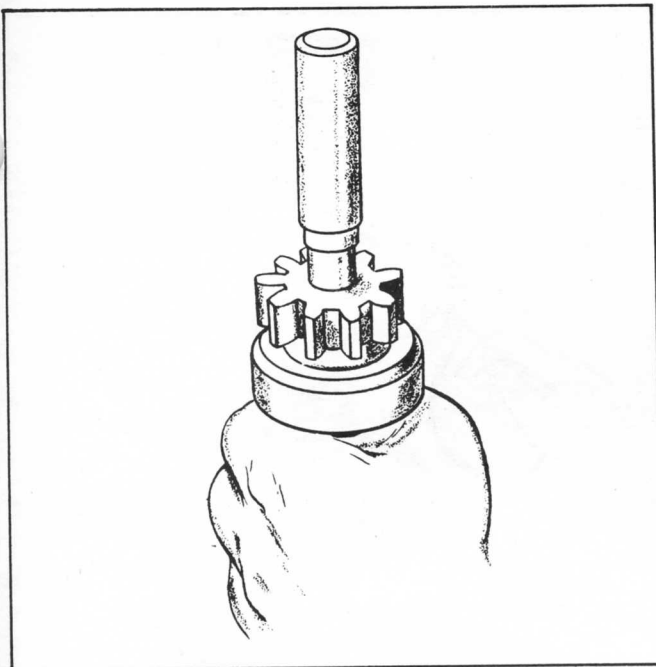

FIGURE 56. REMOVING RING
4. Remove the ring after driving the pinion stopper toward the pinion gear using a cylindrical tool as shown in Figure 56. The overrunning clutch and the pinion stopper should be removed simultaneously.